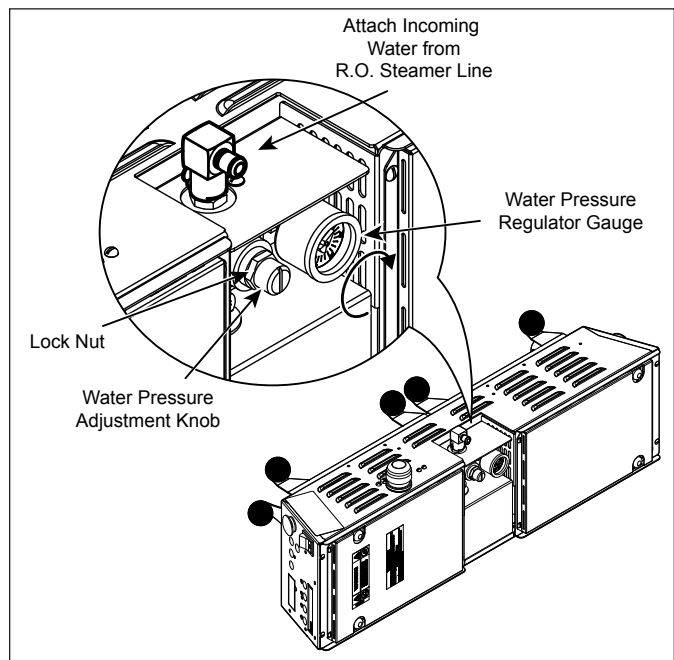

Figure 2. Connecting the Water Pressure Regulator
2. Turn the unit on its side so the Water Pressure Regulator is facing up (Figure 2).
3. Loosen the Locknut counterclockwise (Figure 2), then turn the Water Pressure Adjustment Knob clockwise until the Water Pressure Regulator Gauge reads 10 psi.